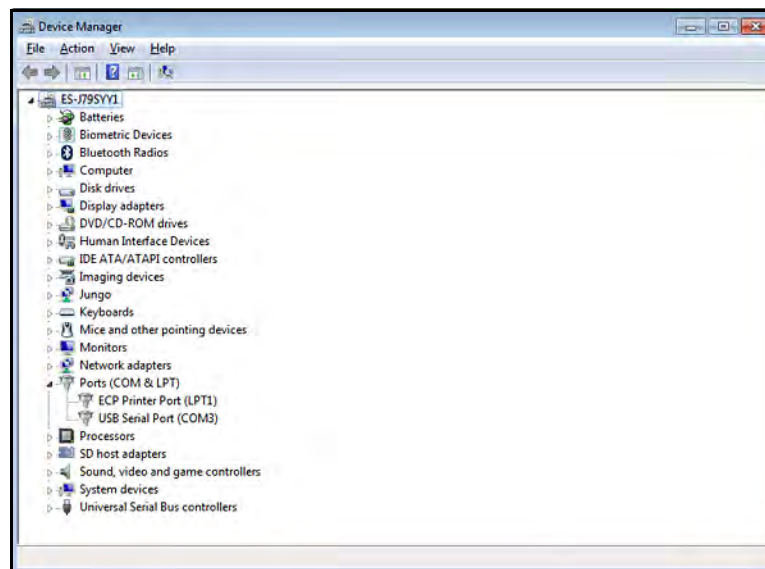

Figure 1: Device Manager Window
5. Open the **Control Panel>>Device Manager** window and then select **Ports** (see *Figure 1* below). Verify that the PT878 USB port is installed.